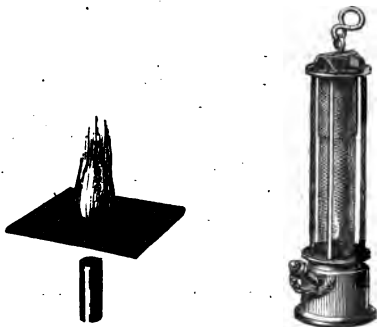

Fig. 30.
**EXPERIMENT 37.**—Take a piece of common iron wire gauze, and bring it close over a gas-burner or the Bunsen's lamp ; then turn on the gas, and light it on the top of the gauze ; next remove the gauze several inches above the burner ; the flame does not pass through the wire gauze (Fig. 30). Why is this? **Because the metallic gauze so quickly takes away the heat that the gas will no longer burn.**
Suppose now we were to place such wire gauze quite round a flame ; we should see the flame burning inside the gauze ; it would give light, and it would get air to burn through the meshes of the gauze ; but **no flame can pass through** the gauze, and therefore if we take such a **safety-lamp**, like the one drawn in Fig. 30, into a mine where there is fire-damp, the gas in the mine cannot become lighted, because the flame cannot pass through the wire gauze. This is the reason why **Davy's safety-lamp** has saved so many lives.
In fig. 30 you have a picture of the lamp ; you see the flame burning inside the wire-gauze case, which is screwed tight on to the brass oil-can at the bottom. You learn how such a simple scientific principle as the one I have just explained may be made the means of saving thousands of lives, and render it safe to get the coal which we need so much.